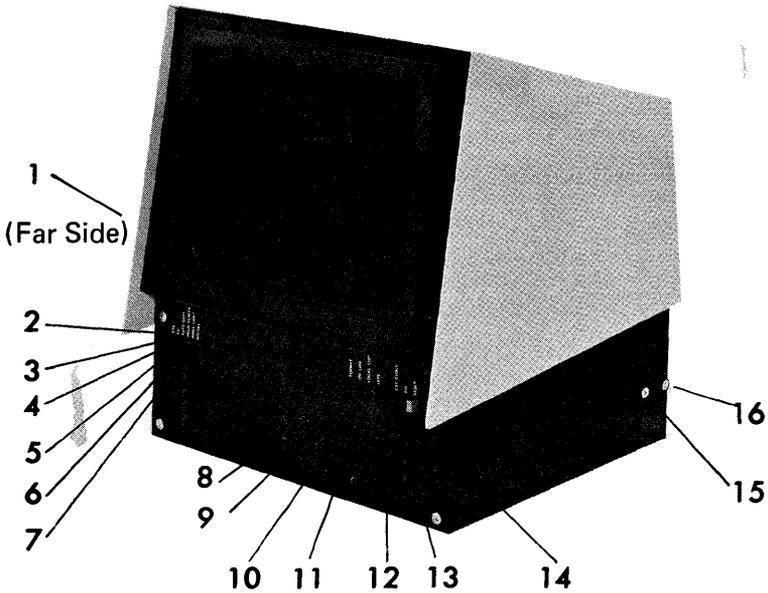

Figure 3-1
3. Operate POWER switch (item 1, in Section III-B, Figure 3-1) to the on position, and allow a two minute warm-up period.
4. Look for the cursor; if not visible, adjust BRIGHTNESS and CONTRAST controls (items 15 and 16 in Figure 3-1) in the following manner:
1. Secure test configuration by setting the five switches, shown in Figure 3-1 (page 3-1) as Items 8 through 12, to the out position, and Item 13 (EIA) to the in position. Then depress the RESET switch (Item 14)."
1. Inspect AC input: Insure that the AC plug is firmly seated in the AC receptacle and that the POWER SWITCH (item 1 in Figure 3-1) is in the on-position.
There are eight single action type switches and four LED's (Light Emitting Diodes) on the front of the VDU (Video Display Unit). In addition to these there are two control knobs on the right side of the VDU and a power switch on the left side. The items described in this sub-section are arranged according to numerical sequence as they appear in Figure 3-1: